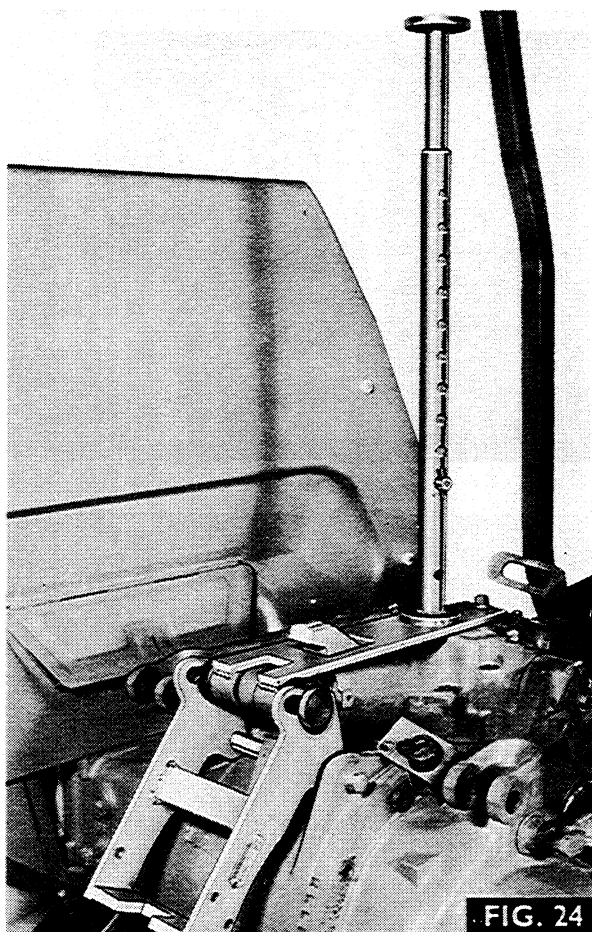

FIG. 24
15. Fig. 24. Fit tool MF 226A and adapter MF 226A-3 to the lift cover as shown.